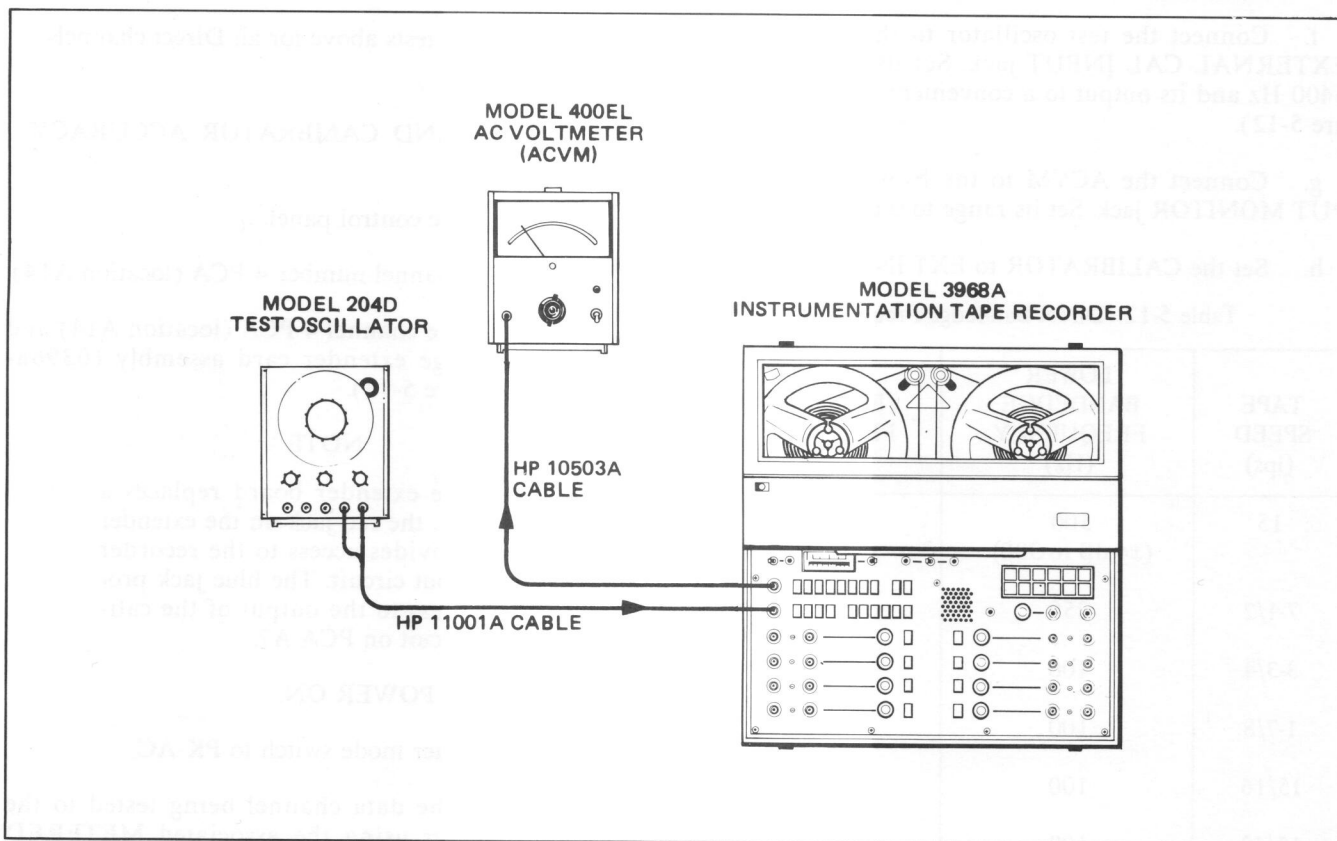

Figure 5-11. Direct Frequency Response Test Setup
- f. Connect the test oscillator to the front panel EXTERNAL CAL INPUT jack. Set its frequency to 6400 Hz and its output level to a convenient value, constant for the test (see Figure 5-11).